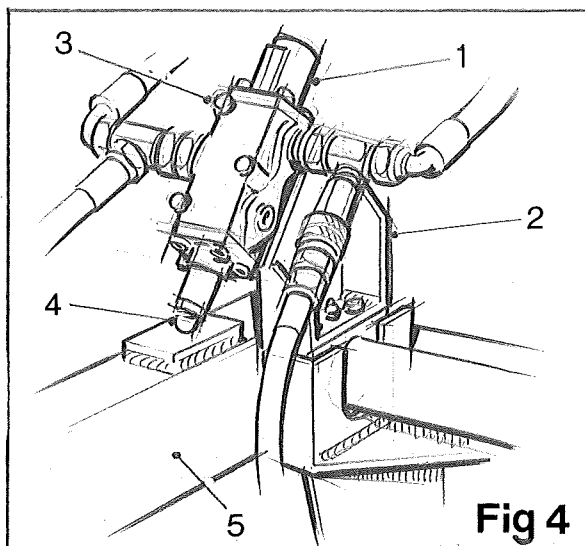

Fig 4
Situated on the RH side of the quick hitch unit is a diverter valve (item 1, fig 4) designed to cut off the flow of oil to the rotors when the machine is in the raised position, so stopping the rotors from turning.
The diverter valve must be fitted or adjusted with the topper in the raised position and the valve must be closed. Adjusting slots are provided in the diverter valve support bracket (item 2, fig 4).
To adjust, loosen the cap screws (item 3, fig 4) securing the valve and slide the valve until the spool touches centrally on the lift arm (item 4, fig 4).